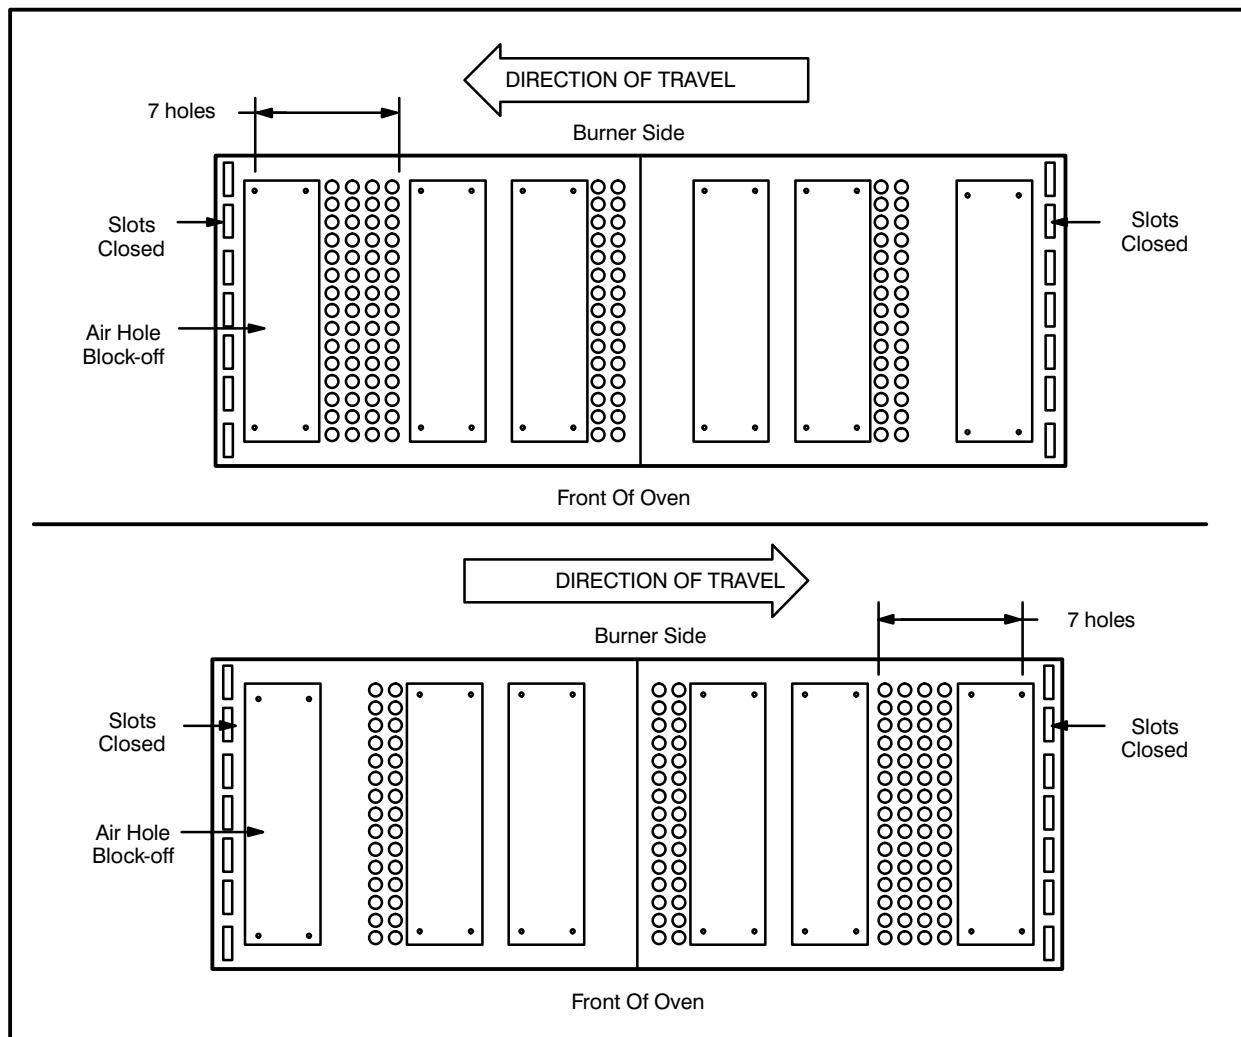

FIGURE 4
*NOTE: Reconfigure the air plates whenever the conveyor belt direction of travel is changed. See FIGURE 4.*